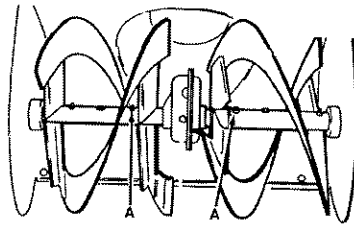

Figure 19
1. **Auger Shaft** - Using a hand grease gun, lubricate the auger shaft zerk fittings (**A**) every ten (**10**) operating hours. Each time a shear bolt is replaced, the auger shaft **MUST** be greased. See Figure 19. See **To Replace Auger Shear Bolt** in the **Service and Adjustment** section.